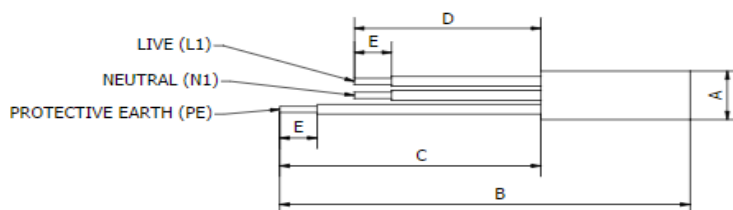
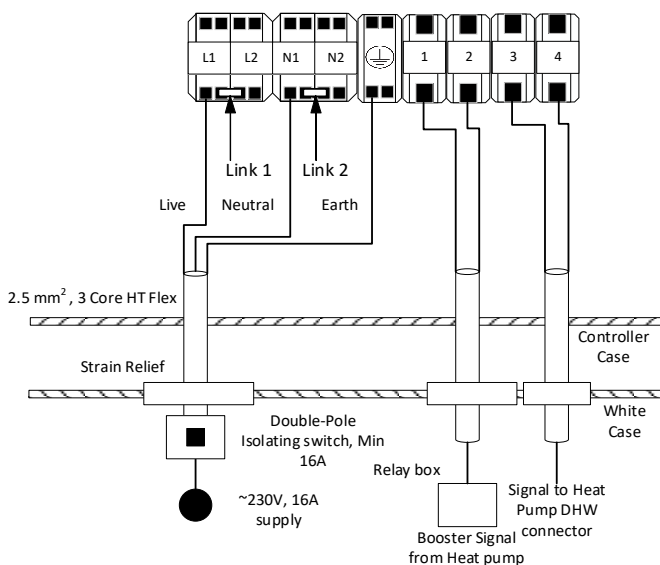

Figure 10: Wire length preparation diagram
Figure 12.2: Wiring Option 1 diagram - HW +iLTHP Samsung Low Temperature Heat Pump
- The mains power cable to the Sunamp Controller should be a minimum of 2.5mm², 3 core H05 VV-F sheathed cable, to BS 6500. This cable must be prepared according to Figure 10 (below), where the Green/Yellow (Protective Earth) wire is 15 mm longer than the Brown (Live) and Blue (Neutral) wires.
- Prepare the wire according to (Figure 10) and wire the mains power cable in the following terminals (Figure 12.2):
Wire the 2 core PVC insulated cable provided (C2295) from the Samsung "MIM-E03AN" Booster heater terminal connectors "L" & "N" (please refer to Heat Pump manual), run the wire into the relay box (C2291) provided into "TRIGGER INPUT AC" terminals (please refer to relay box instruction sheet). Then wire another 2 core PVC insulated cable provided (C2295) from the relay box terminals "NO1" & "C1" to the Heat Battery, into the control box housing through the opening available. Secure the cables in Terminal T1 & T2 independently (Figure 12.2). Please note that the polarity of the wires is not important in this wiring setup. Please ensure to use the provided relay backbox (C2292) & 2 x Cable grommets (C2296) when running the wires into the relay box.
- Using the Samsung Tank sensor part supplied "CNS042" with the heat pump, remove the sensor end, by cutting off the copper cylinder and strip the wire as required. Add the connector end into the Samsung "MIM-E03AN" (please refer to Heat Pump manual), then run the wire into the Heat Battery via the Heat Battery case cabling grommets and then into the control box housing through the hole available. Secure the cables in Terminals T3 & T4 independently (Figure 12.2).
- Prepare if necessary, the mains power cable and wire in the following terminals (Figure 10):